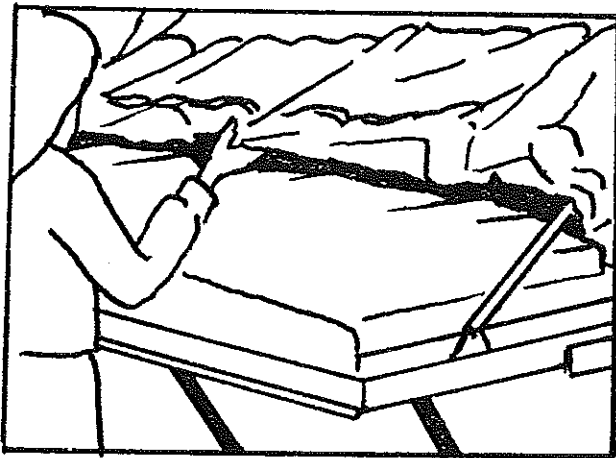

FIGURE 12
20. With both beds fully extended and supported, grasp the bottom edge of either the front or rear tent enclosure with hands approximately 2 1/2 feet apart and **gently** pull until the tent fabric is pulled out toward the end of the wing beds. Standing at any side of the wing bed, reach in underneath of the tent fabric and grasp the side of the canvas bow and rotate toward the end of the bed. See Figure 12.